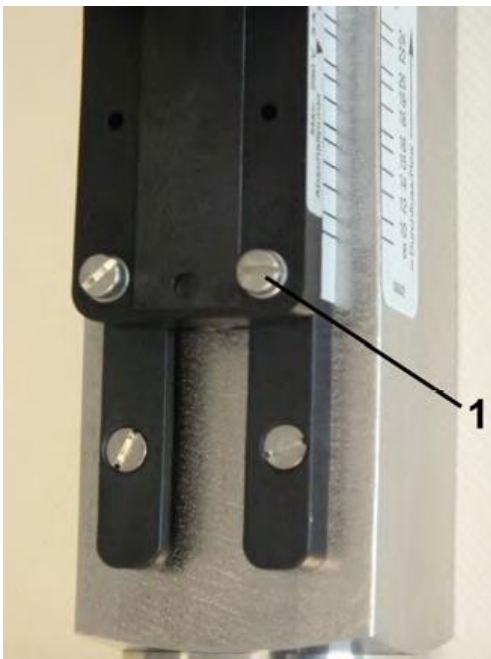

Fig. 31: Loosen set screws
- 1.** ► Loosen the set screws of the switch contact (Fig. 31/1) using a flat-bladed screwdriver.